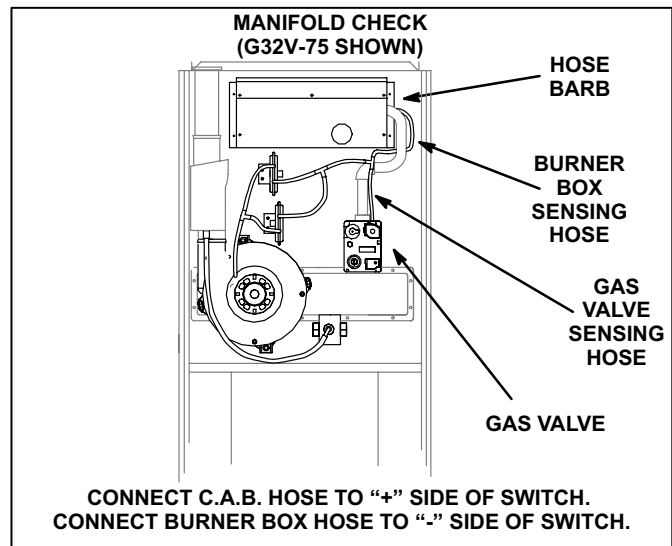

FIGURE 52
- 2 - Disconnect pressure sensing hose from gas valve and plug hose. Leave hose barb on valve open to atmosphere. See figure 52.